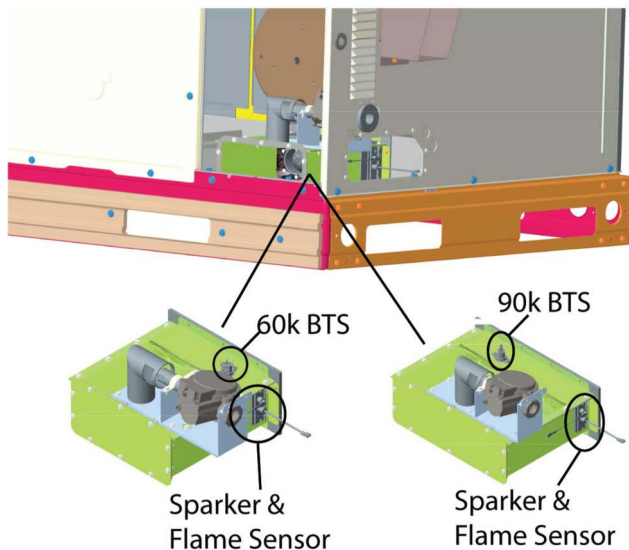

Fig. 23 – Burner Thermal Switch (BTS) (Ultra Low NOx) ^{A200287}
2. Remove 2 screws holding the flue hood (Fig. 23) and remove the flue hood.
6. Re-connect flue hood (Fig. 23) using the 2 screws removed.
NOTE: For Ultra Low NOx The combined flame sensor/sparker is located on the right side of the burner box (See Fig. 23). The flame sensor/sparker is accessible for service by removing the cover in the right side panel. The burner thermal switch (BTS) is located on the top of the burner box. For 60k heat sizes, the BTS switch is accessible through the cover in the right side panel. For 90k heat sizes, the BTS switch is accessible by removing the control access panel.